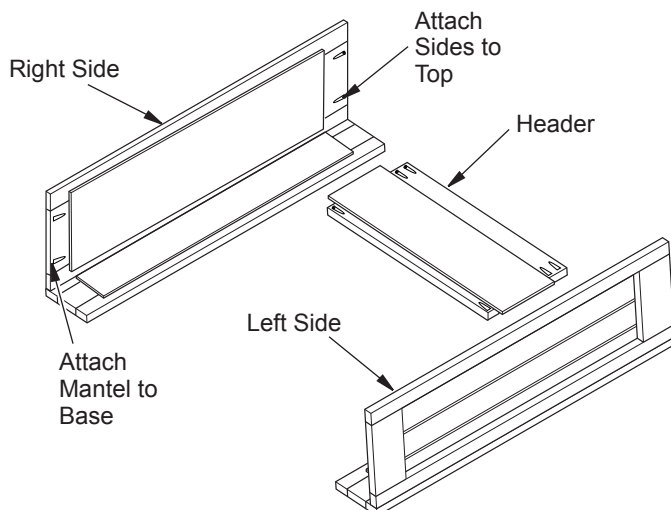

Figure 2 - Installing Header
2. Place header between right and left leg assemblies (see Figure 2). The top of header must be flush with top of side leg assemblies.